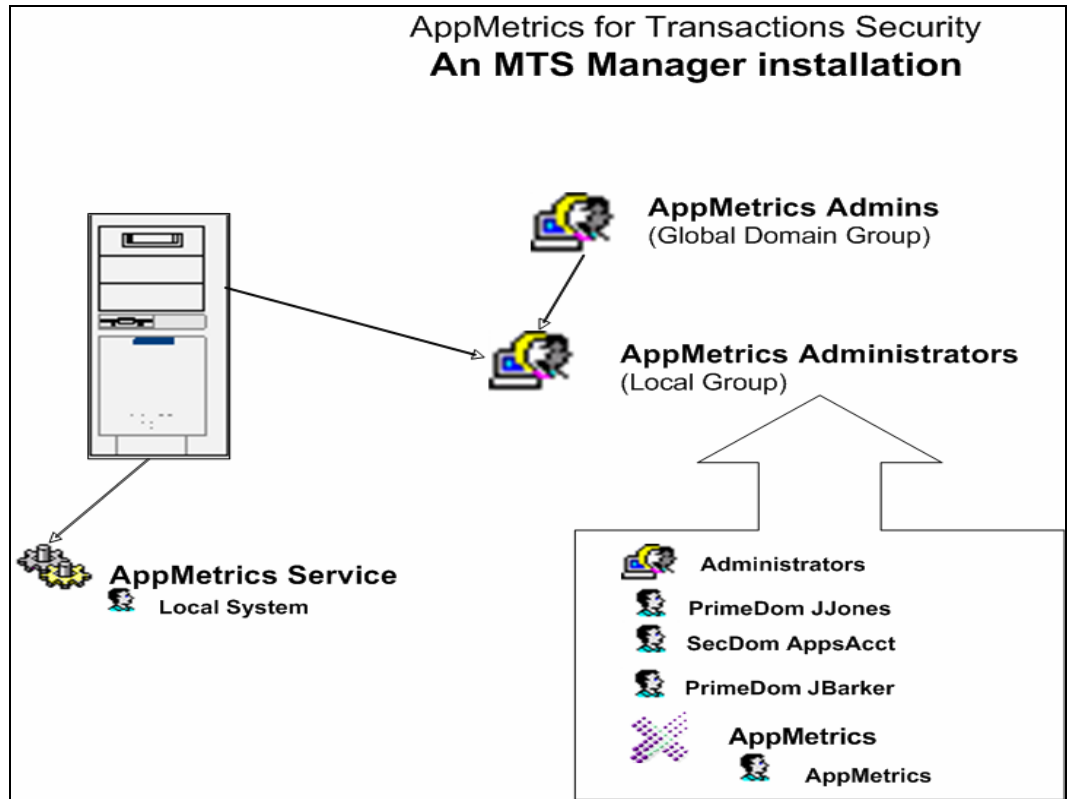

Figure 6
- As Figures 6 & 7 illustrate, users and accounts added into the AppMetrics Admins global group will be inherited automatically into the AppMetrics Administrators local group on any AppMetrics Agent or Manager machine within that domain or another trusted domain.
By default, the service run-as account on Windows NT 4 must use the local System Account. You cannot assign any other account to the run-as account. (See Figures 6 & 7).
The AppMetrics Agent security configuration illustration above (See **Figures 6 & 7**), indicates the security identities assigned to the packages 'Sample Bank', 'Your Application', and 'System'. When configuring this sample Agent, the System Administrator must ensure that the security identities on these packages are included in the local AppMetrics Administrators group on both the AppMetrics Agent and AppMetrics Manager machine.